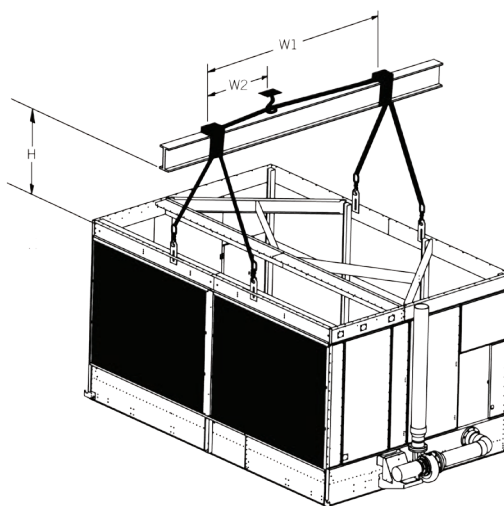

Figure 1a. Lower Section Lift
**NOTE:** For the lower section, see **Figure 1a** on **page 4**.
2. Position the lower section on the unit supports and bolt in place (see **Figure 1a** on **page 4**).